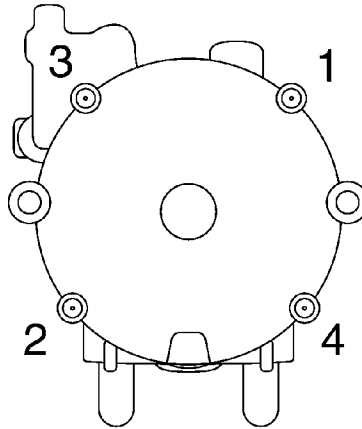

Figure 7-29. Diaphragm Cover Tightening Sequence
4. Install the diaphragm as noted during disassembly. Install the cover and four screws on the main housing. Tighten the screws to 3.9 0.5 Nm (34.5 4.5 lbf in) in the order shown in Figure 7-29.